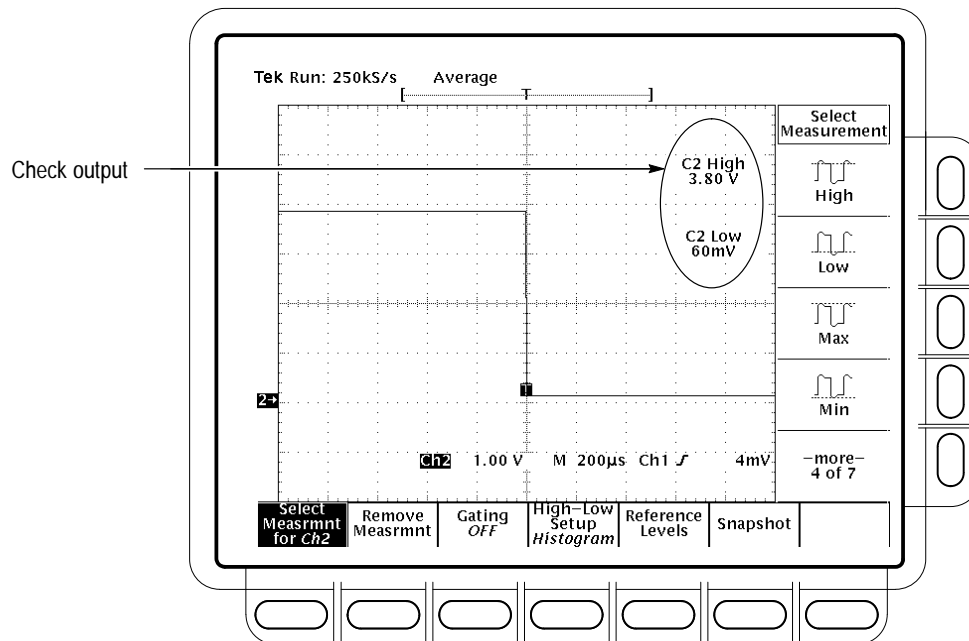

Figure 1-21: Measurement of Main Trigger Out Limits
- d. *Check Delayed Trigger output against limits:* See Figure 1-21.